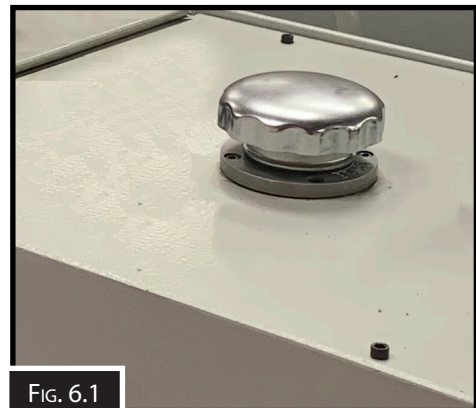

FIG. 6.1
- 4 Remove all bolts fixing the top cover of the tank, and remove the top cover. (Fig.6.1)